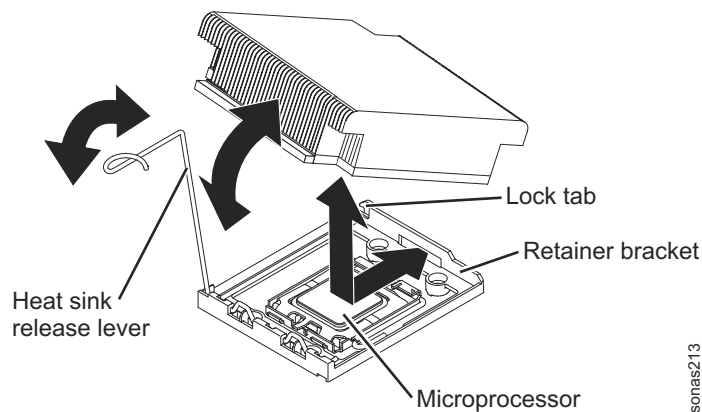

Figure 46. Aligning the heat sink above the microprocessor
16. Align the heat sink above the microprocessor with the thermal grease side down. See Figure 46.